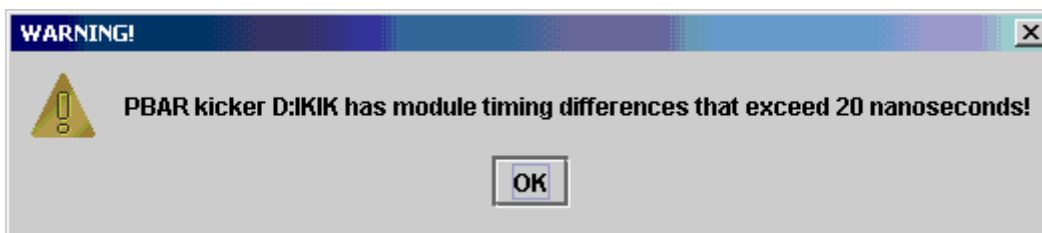
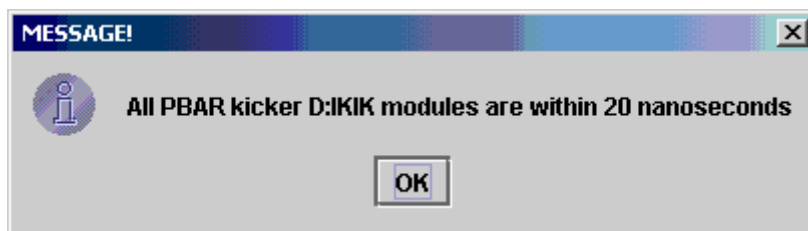

Figure 17: If one or more kickers need a timing change, then this popup window will appear. Click OK to view the results.
Figure 20: If all kicker modules are aligned within 20 nanoseconds then this popup window will appear. Simply click "OK" to continue.
7. If any tuning changes are required, you will get a popup window, as shown in Figure 17, that states that D:IKIK has timing module differences that exceed 20 nanoseconds. If all of the kicker times are within 20 nanoseconds, you will get a popup window like that shown in Figure 20, and can then skip ahead to Step 11 of this procedure.
10. Repeat Step 6 to Step 9 as necessary until all the kicker modules are aligned. Once aligned, a popup window will appear, as shown in Figure 20, that says that all kicker modules are within 20 nanoseconds.